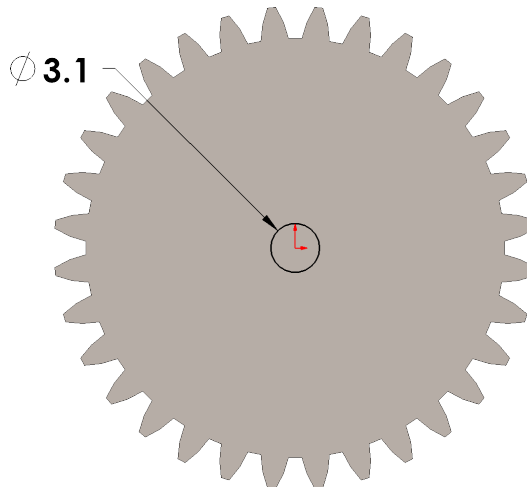

Fig. 6
Step 3. Change Bore diameter to **3.1**, **Fig. 6**. Clearance .1 of Axle.